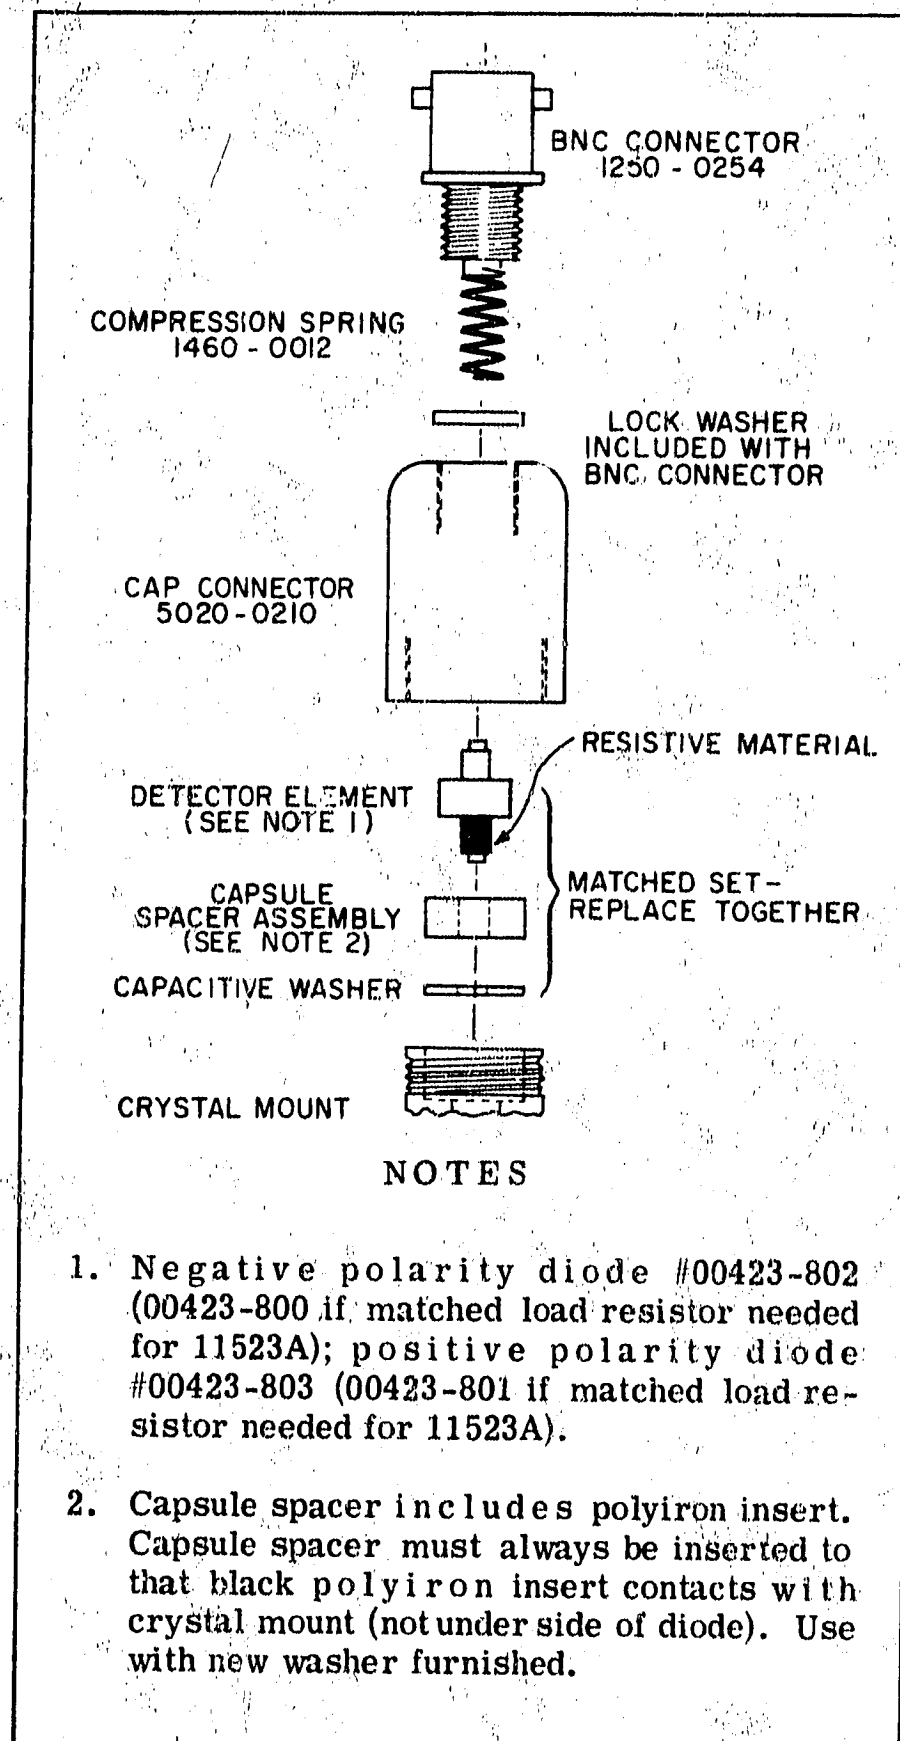
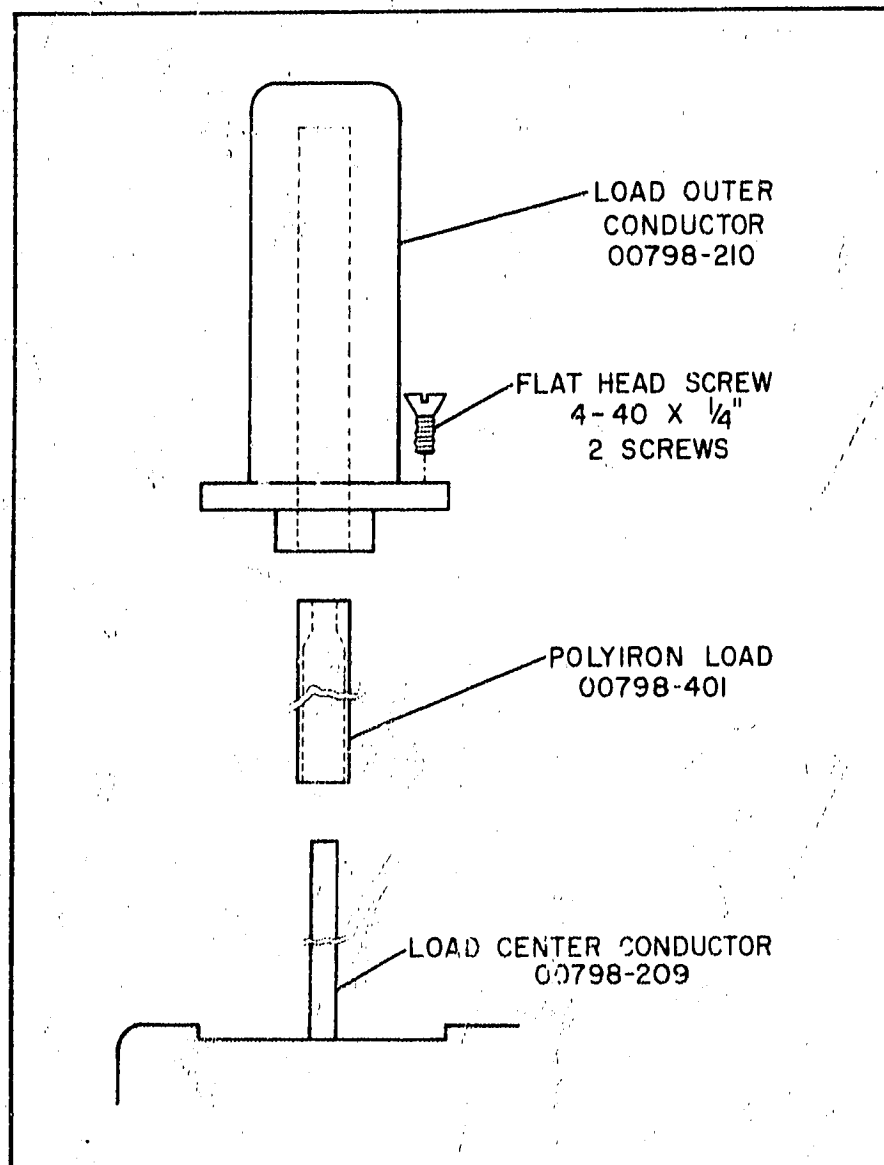

Figure 3. Detector Unit Assembly
Figure 4. 788C Load Assembly
26. Succeeding paragraphs give instructions for repair of the directional detector and the 11523A (Option 02) Load Resistor. Figure 3 illustrates the replaceable detector assembly for the 786D, 787D, and 788C. Figure 4 illustrates the replaceable load assembly for the 788C, 786D, and 787D load assemblies are not field-replaceable. Figures 5 and 6 illustrate the replaceable 11523A load resistor assembly. Stock numbers required when ordering replacement parts are given in the respective assembly illustrations. To order a replacement part, address order of inquiry to your local Hewlett-Packard sales and service office (see listings at the rear of this Note).
The detector element (see Figure 3) can be damaged electrically by incorrect handling. Read the following handling precautions before doing anything which involves detector element.
- Note Figure 3 and remove connector cap from body. To remove connector cap, use gas pliers with nylon jaws or protect connector body with heavy paper or tape.
A resistor is included with each replacement detector element ordered by the -800 or -801 number given in Figure 3. The resistor is for use in 11523A Load Resistor and must be installed to retain proper square-law operation if the directional detector is equipped with this optional load.
- Refer to Figure 3. Remove BNC connector and lockwasher.
- Refer to Figure 4. Remove two retaining screws and the load outer conductor.
* Replacement resistor is supplied with replacement detector elements ordered by the -800 or -801 number given in Figure 3. Note: Entire assembly minus resistor is available as 11523-600.